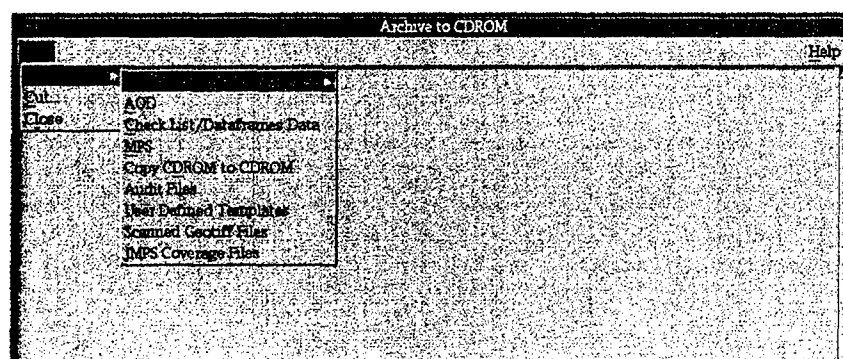

Fig. 38 — Archive to CDROM window
3.3.6.2.1 Archive Data To CDROM — This option “Premasters” a set of data into a CD image and writes the data to a CD. The CD images conform to the International Standard Organization (ISO) 9660 standard for optical disk formats. When a user selects this option, MMC opens the **Archive To CDROM Window** (Fig. 38). Click on **Premaster** and select the data type to be archived: Scanned CAC Data, Aircraft Optical Data, Checklists/Dataframes Data, Mission Planning Data, Copy CDROM to CDROM, Audit files, User Defined Templates, Scanned GeoTIF Files, or JMPS Coverage Files. MMC will build an ISO 9660 Image from the selected data. If the user has built an ISO Image before, MMC will prompt the user to delete that file before building a new one. After premastering the data into an ISO Image, select **Cut** to actually copy the data to a CD. When finished, select Close to return to the main **MMC Window**. The Archive options include: